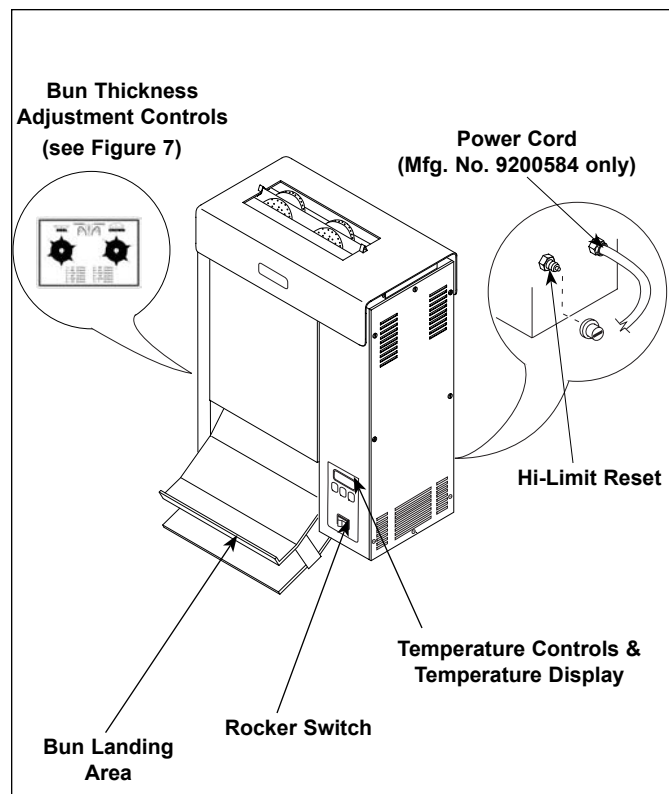

Figure 4. VCT-20 Toaster
2. Turn the rocker switch (power on/off) to ON. (Figure 4). Allow 30 minutes warm-up time before proceeding.
**NOTE: The temperature display (Figure 4) will flash "LO" until preset operating temperature is reached. When the toaster approaches the preset temperature of 600°F (315°C), "USE" will appear in the temperature display and the unit is ready to toast buns. If "USE" does not appear in the window after warm-up period of approximately 30 minutes, contact your Roundup authorized service agency.**
3. Drop buns into toaster (Figure 4). **Cut sides of heel and crown must face each other (crown in front, heel in back).**
4. Toasted product will drop into the bun landing area (Figure 4).
A hi-limit thermostat will turn off electrical power to the heater and control circuits if the unit overheats. To reset this thermostat, allow sufficient time (10-15 minutes) for the unit to cool down, then locate the reset button at the rear of the unit. Remove protective cap, depress the reset button, and reinstall protective cap (Figure 4).